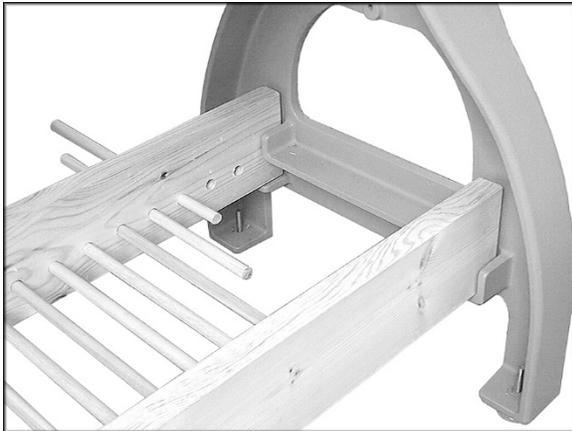

Figure 12
##### Shelf Style 3: (Figure 12)
This is a basket-style shelf consisting of two 2x6's and dowel rods. The advantage of this design is that most wood chips will fall through the shelf instead of accumulating on it. The instructions below are for building the shelf shown in Figure 12.
6. Insert the dowel rods through the holes in the rear 2x6, as shown in Figure 12.